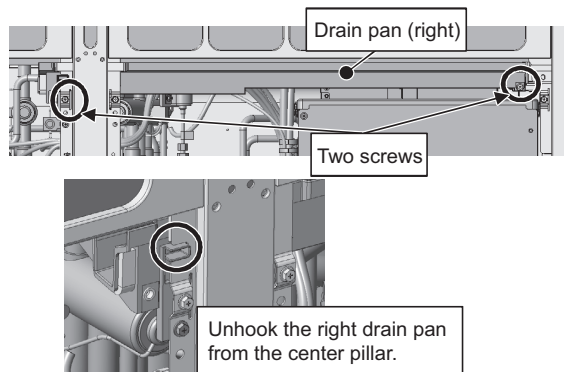

Figure 5
- (8) Place the excess weak and strong electrical wirings in the space at the base legs as shown in Figure 5 to keep them from being caught during maintenance work.
- (4) Remove the right drain pan by unscrewing the two screws. (See Figure 5.)